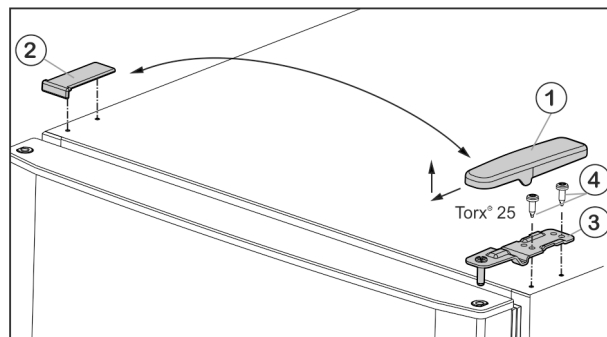

Fig. 6
- ▶ Pull the cover Fig. 6 (1) forwards and upwards.
- ▶ Lift off the cover Fig. 6 (2).
- Unscrew top bearing block *Fig. 6 (3)* (2x Torx® 25) *Fig. 6 (4)* and lift off in upward direction.
- Install the upper bearing block *Fig. 6 (3)* on the new hinge side and in the door.
- Screw in the upper bearing block **tightly (with 4 Nm)** (2x Torx® 25) *Fig. 6 (4)*. Use a cordless screwdriver if necessary.
- Slide on the cover *Fig. 6 (1)* on the opposite side from the outside and snap it into place.
- Slide on the cover *Fig. 6 (2)* on the opposite side from above until it snaps into place.